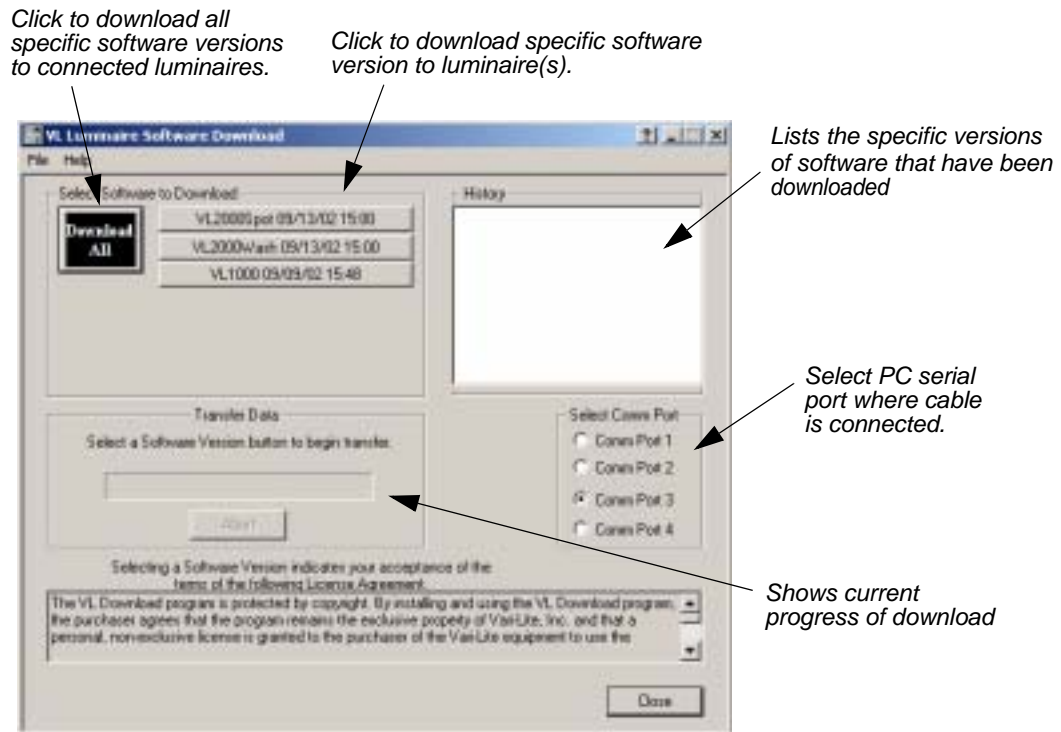

Figure 3-2: Download Interface Window
- Step 6. At **Select Comm Port** section of window (refer to Figure 3-2 on next page), select serial Comm Port (Comm Port 1, Comm Port 2, Comm Port 3, or Comm Port 4) where *Serial Straight Thru Cable* is connected.